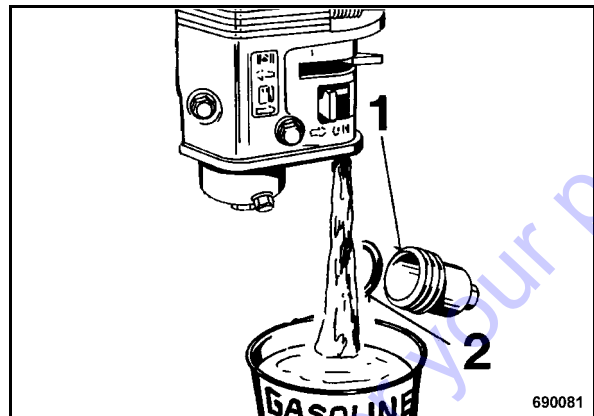

Fig. 65
- Unscrew the sediment filter (1) (Fig. 65), drain off and catch all fuel.
- Check the seal (2) for damage, change if necessary.